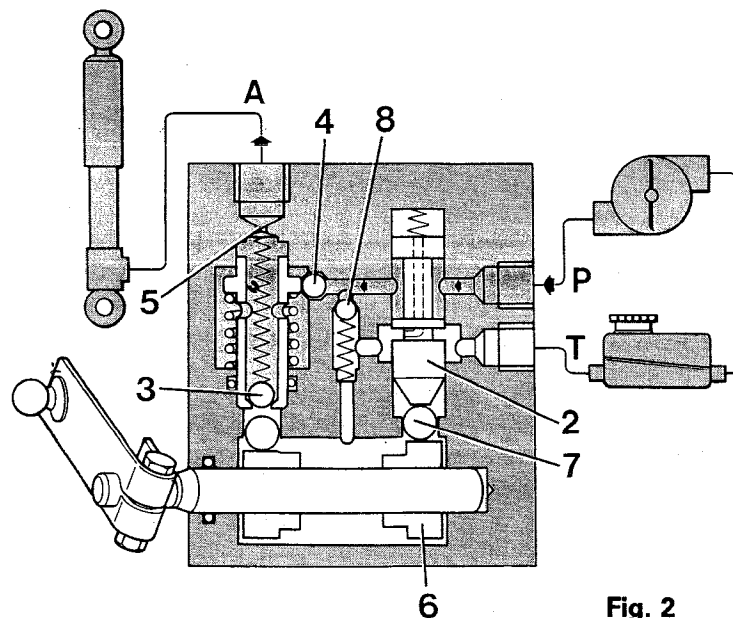

Fig. 2
When the camshaft is rotated anti-clockwise (upwards adjustment), as can be seen from fig. 2, the cam (6) pushes a ball (7) which in turn pushes a control piston (2) upwards thus closing outlet "T". The oil therefore flows from "P" through a non-return valve (4), when the pressure of the oil itself exceeds that existing inside the dampers, arriving at outlet "A" which is constricted by a nozzle (5).